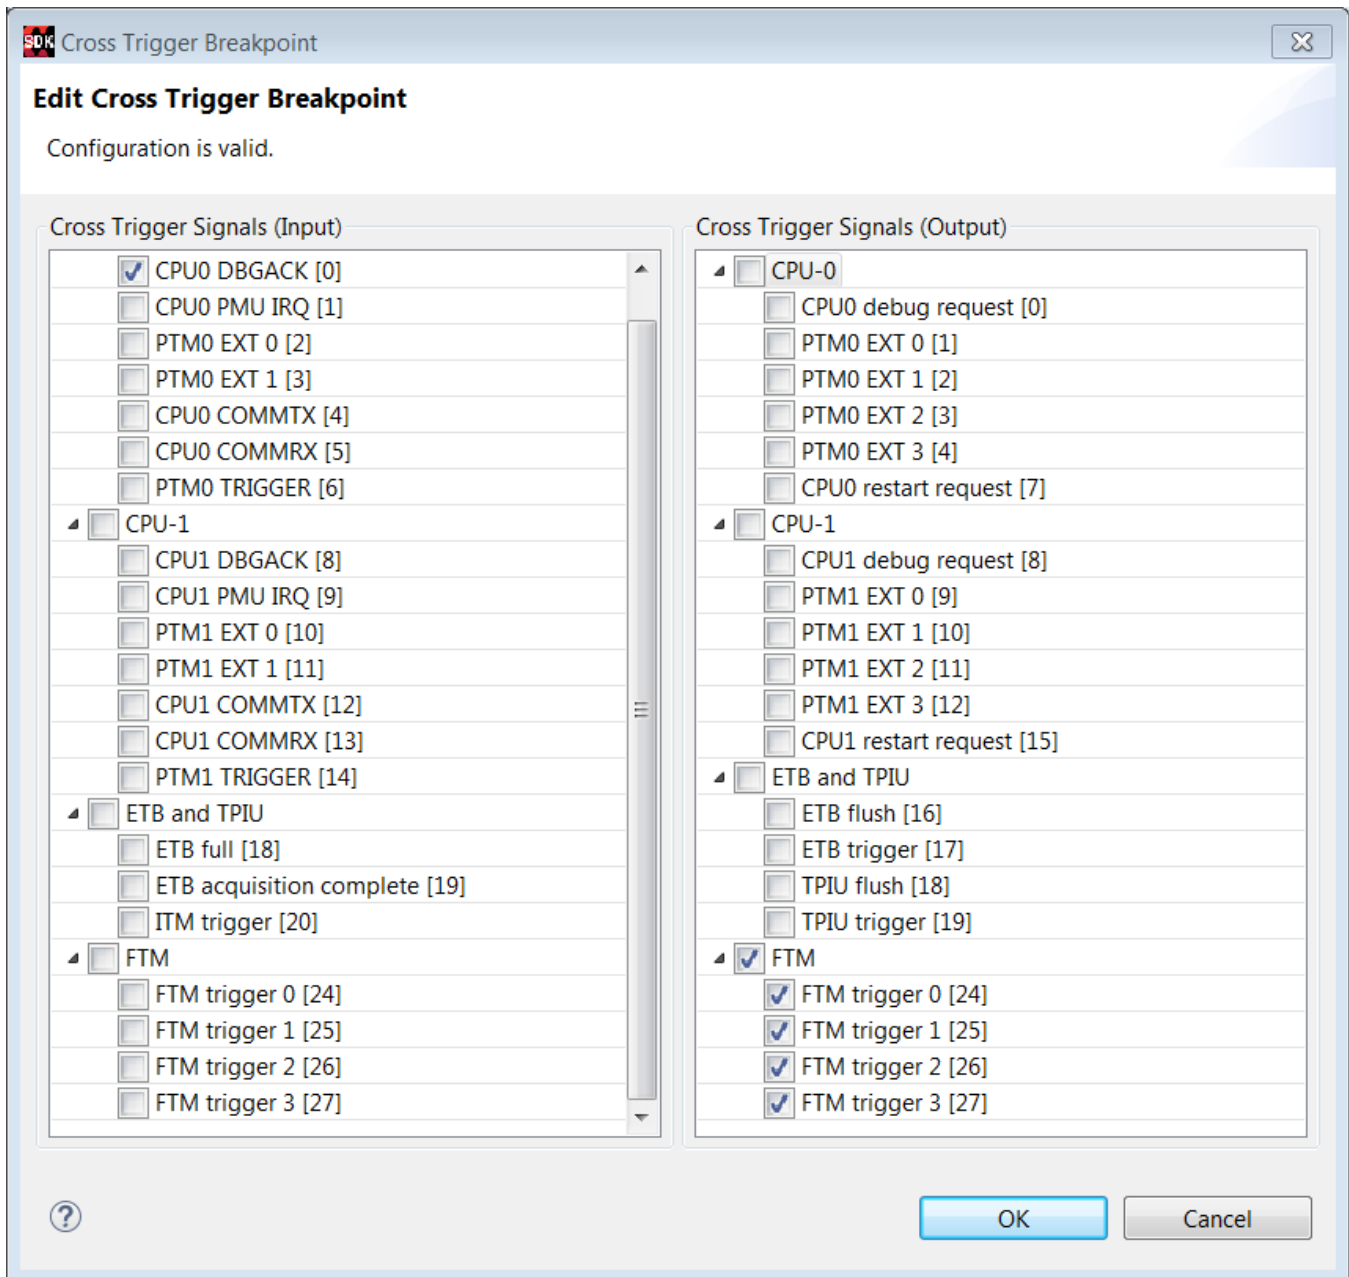

Figure 65: Setting Cross-Trigger Breakpoints for processor to fabric trigger
14. In the Create Cross Trigger Breakpoint page, select the options as shown in Figure 65.
17. In the Create Cross Trigger Breakpoint page, select the options as shown in Figure 65.